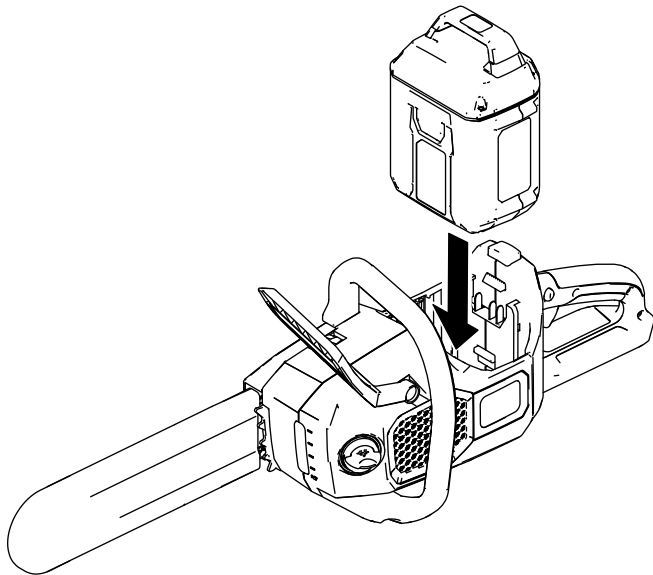

Figure 9
3. Align the tongue of the battery pack with the battery cavity in the chain saw (Figure 9).